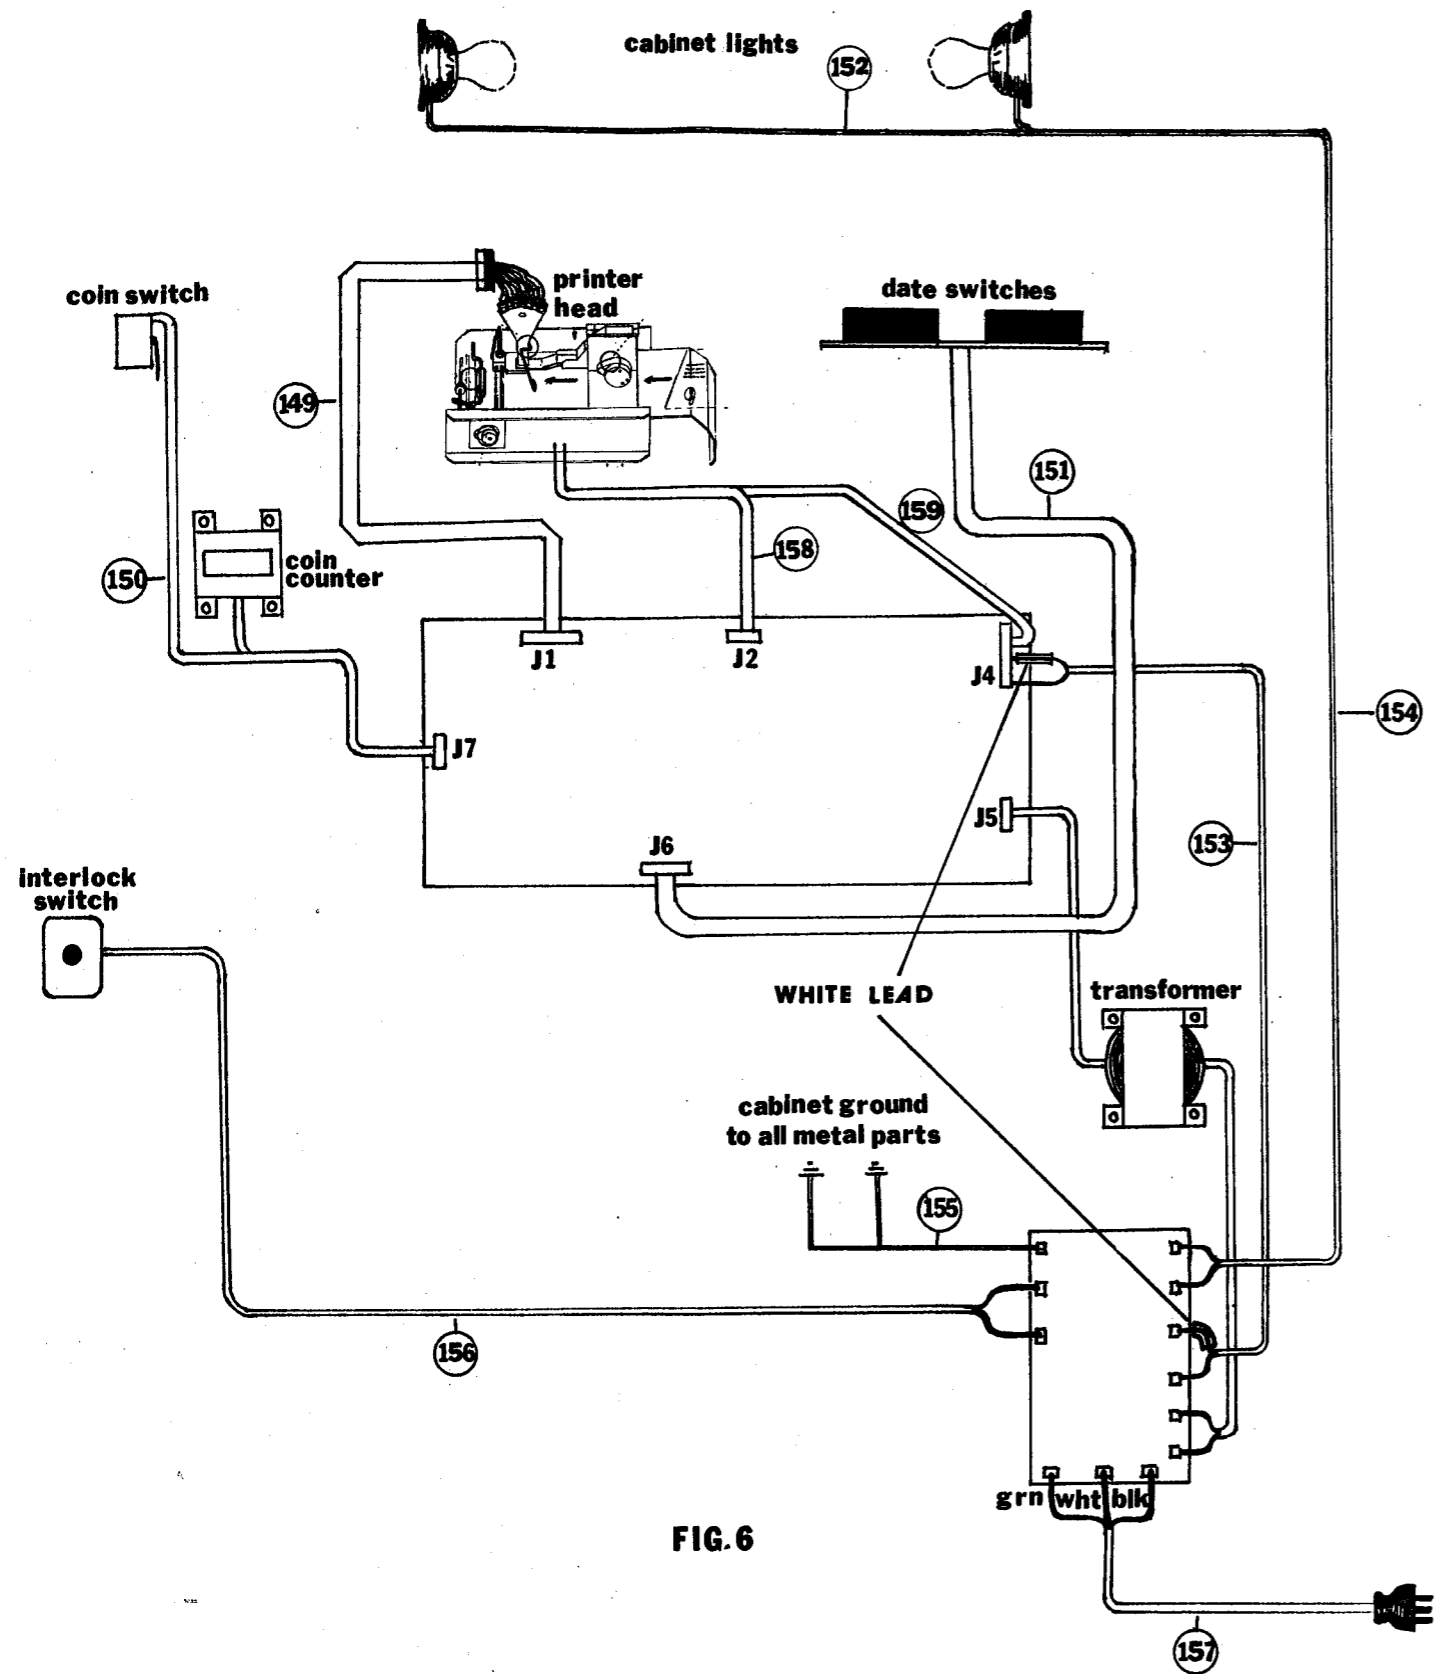

FIG. 6
2. Carefully unplug each connector - DO NOT pull on the wires. Each connector is provided with a key to insure that it cannot be connected improperly. Take care not to damage the connectors, or plug them into the wrong location. Refer to Figure 6 for Harness lay-out.
7. Double check the connectors using Figure 6 as a guide.
(also see Figure 6)
CABLE PARTS LIST (see Figure 6)